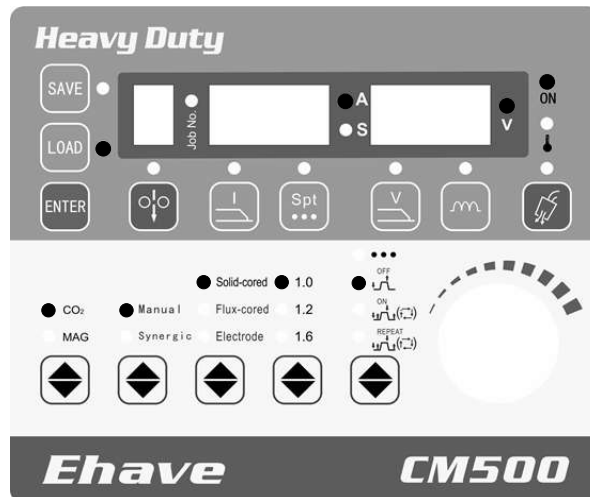

Figure 3-22 Loading parameter settings
- Figure 3-22 shows the control panel where the parameter settings are loaded.